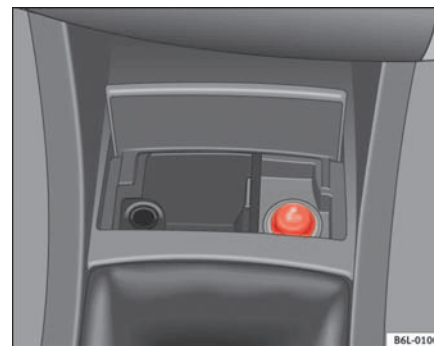

Fig. 82 Cigarette lighter
- Press on the cigarette lighter ⇒ fig. 82 to activate it ⇒ .